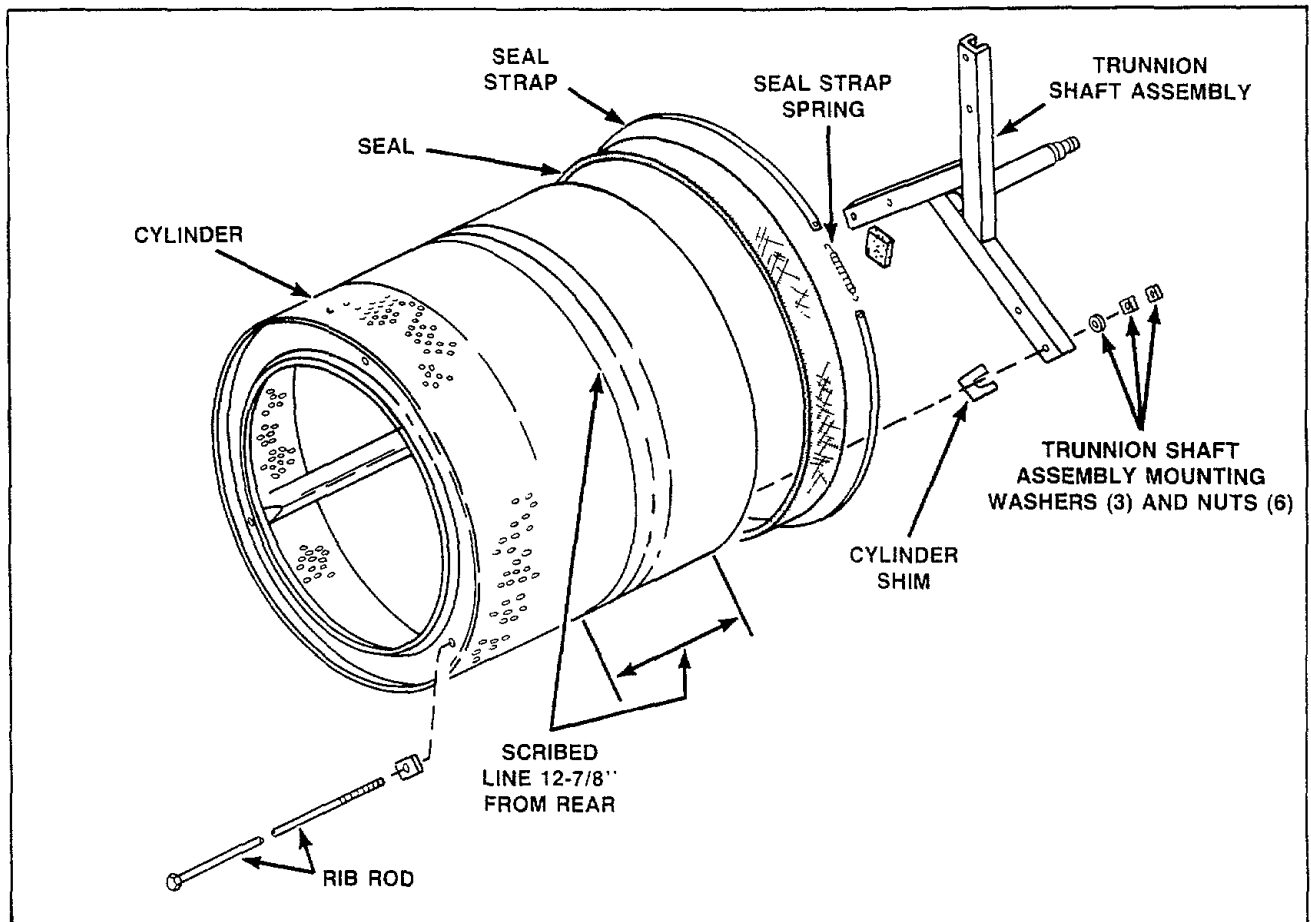

Figure 17
- c. Remove the three washers and six nuts holding trunnion shaft assembly to rear of cylinder. *Figure 17.*
## 20. CYLINDER SEAL (Figure 17)